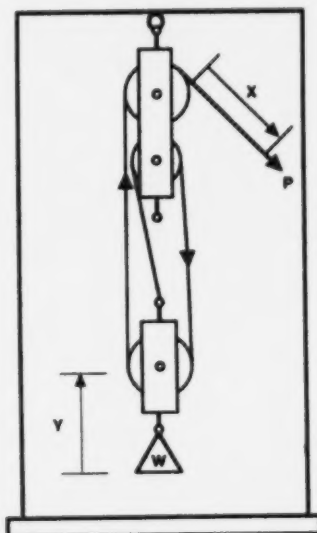

Figure 4 - Three Pulley Configuration
1. Arrange the pulleys as shown in Figure 4. Again measure the quantities and record the quantities W, P, Y, X. **Instructor's Initials**